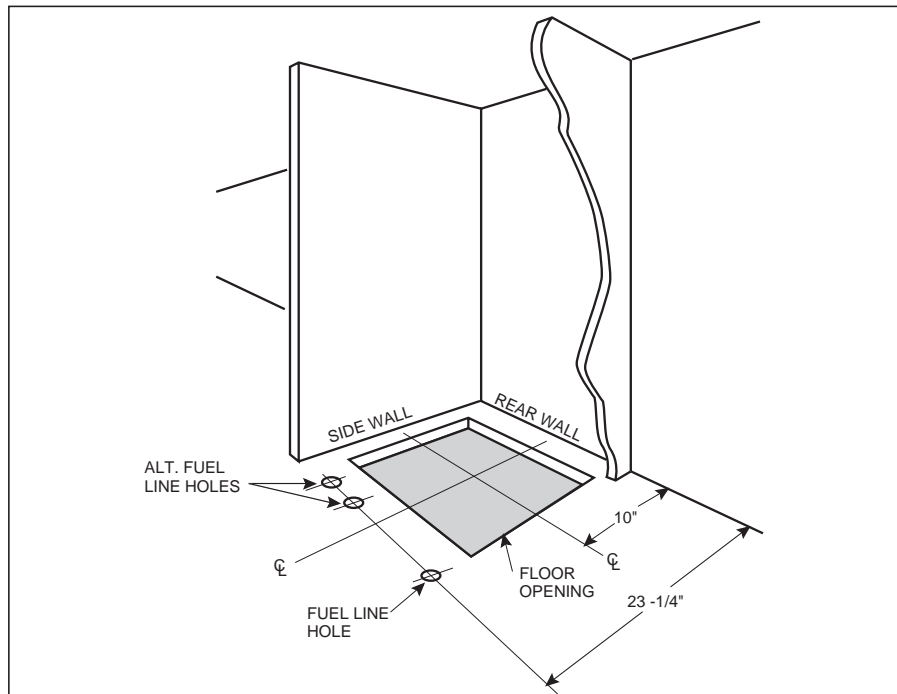

Figure 6. Closet or Alcove
Required floor, ceiling, and roof cut-out openings must be carefully located to avoid misalignment of the furnace (see Figures 6 & 7). Installation procedures are suggested for typical furnace installations and need not be followed in the exact listed sequence.
- Locate center of gas line hole, measured 23-1/4" from the rear wall and 6-5/8" to the left of center of the floor cut-out (See Figure 6) or